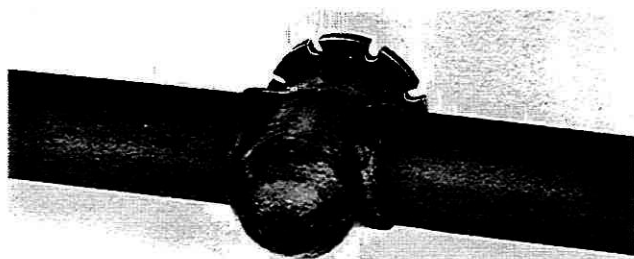

FIGURE 2
6. Weld both halves of fitting together but free of pipe. The fitting can be rotated so that the side welding is done horizontally on top of pipe. **Figure 2.**